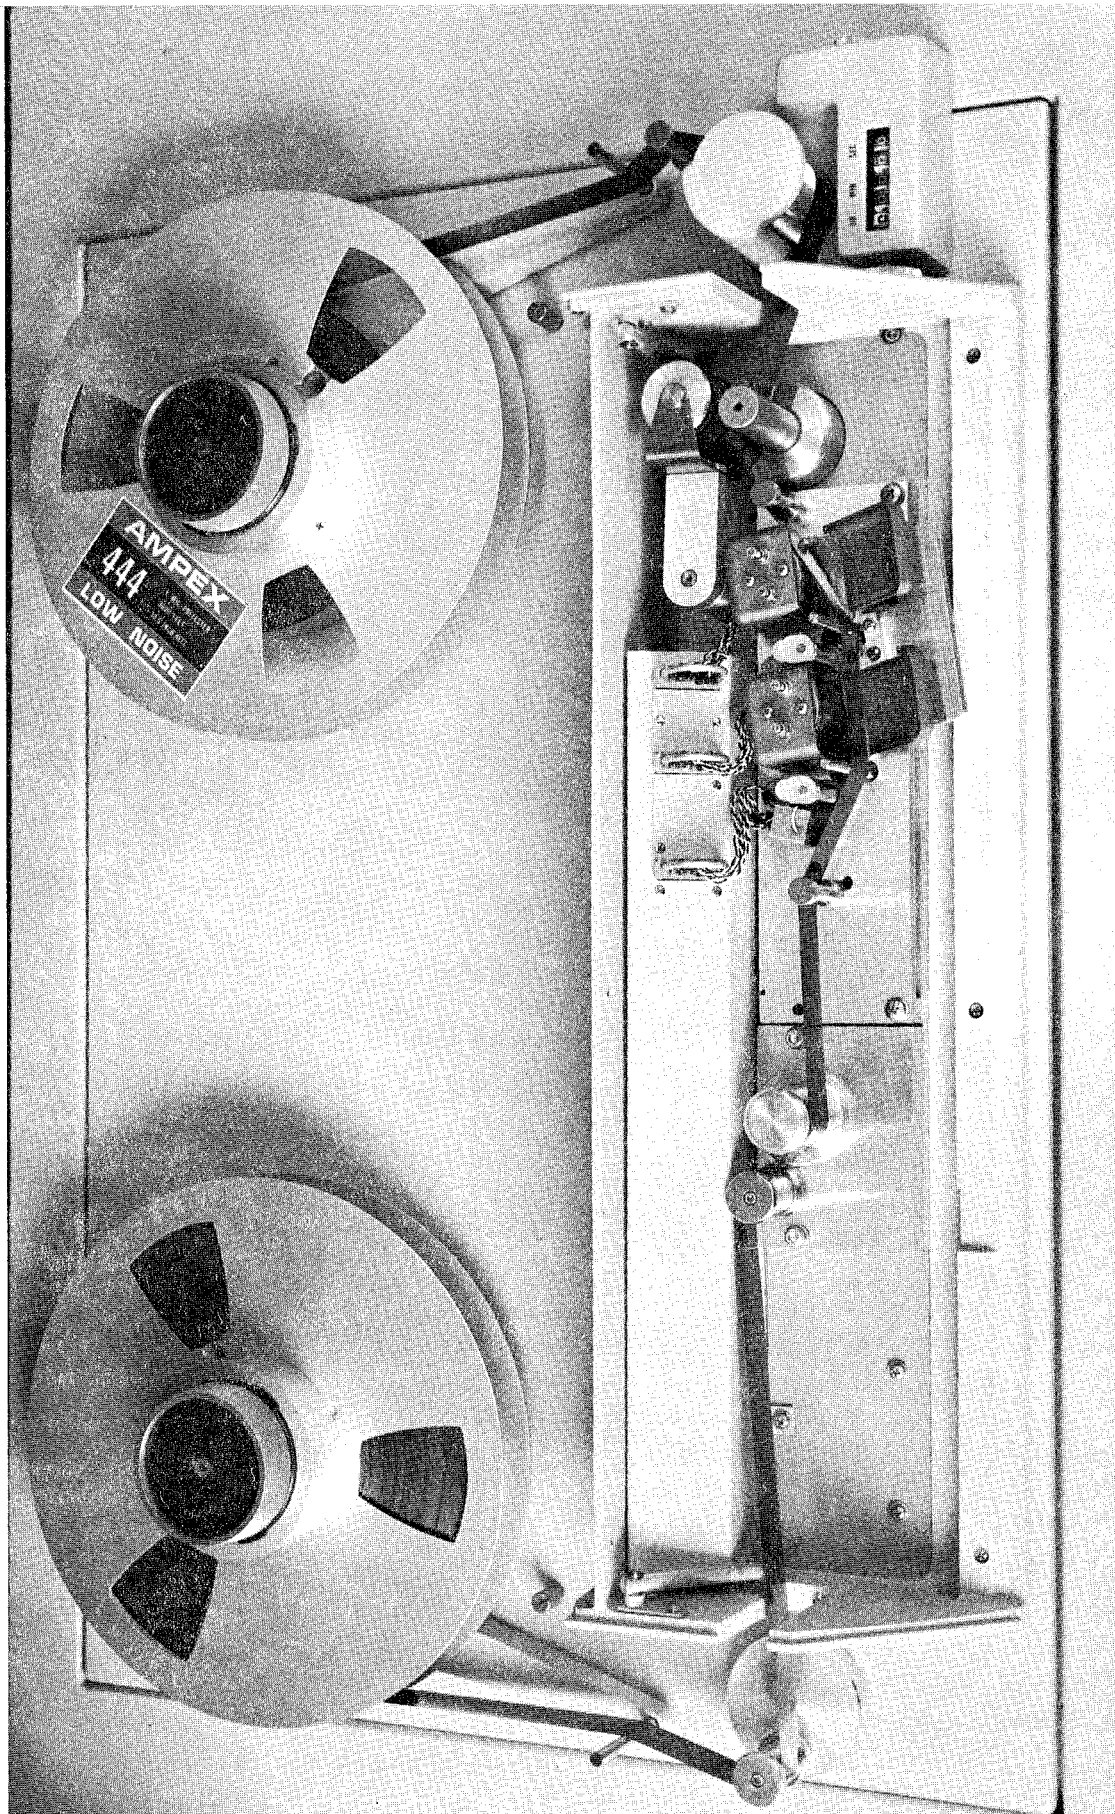

FIGURE 3-4
3.6.1 Threading Tape      Use low-noise tape; Ampex 400 Series or equivalent. The tape path is shown in Figure 3-4. Turn power on. Place full reel on supply turntable, hold supply tension arm to left to release supply brake and pull off approximately 36" tape. Open head cover and head shield cover, thread tape, and reset tape indicator. Close head gates and cover.